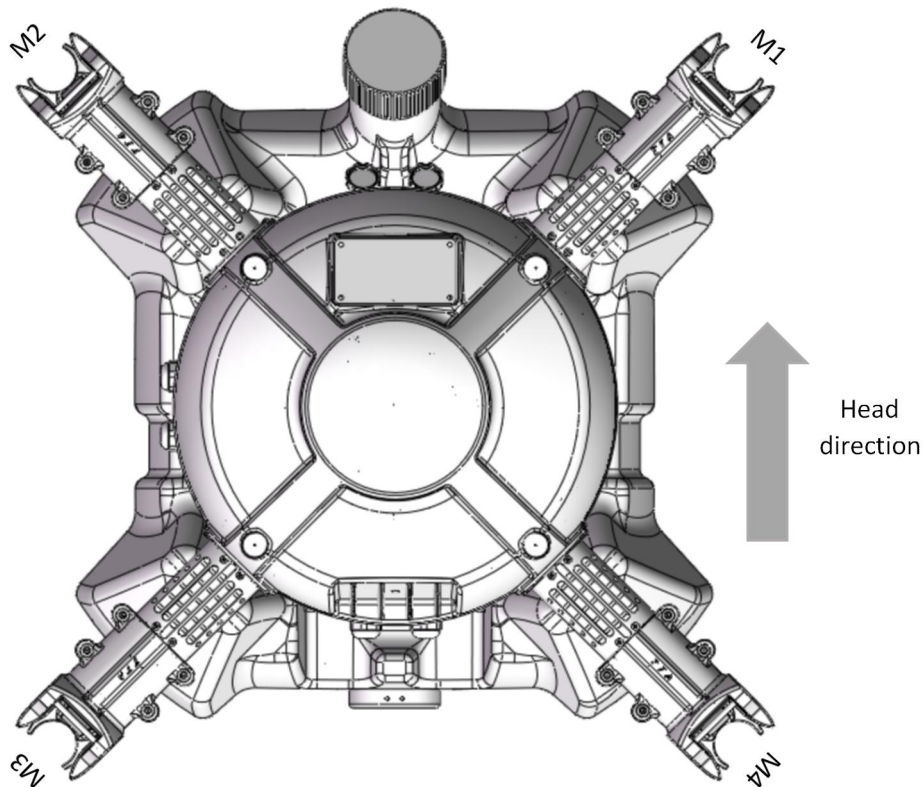

Figure 2-1
- 2) M1 should be CCW arm, M2 should be CW arm, M3 should be CCW with nozzle arm, M4 should be CW with nozzle arm, see figure 2-1.